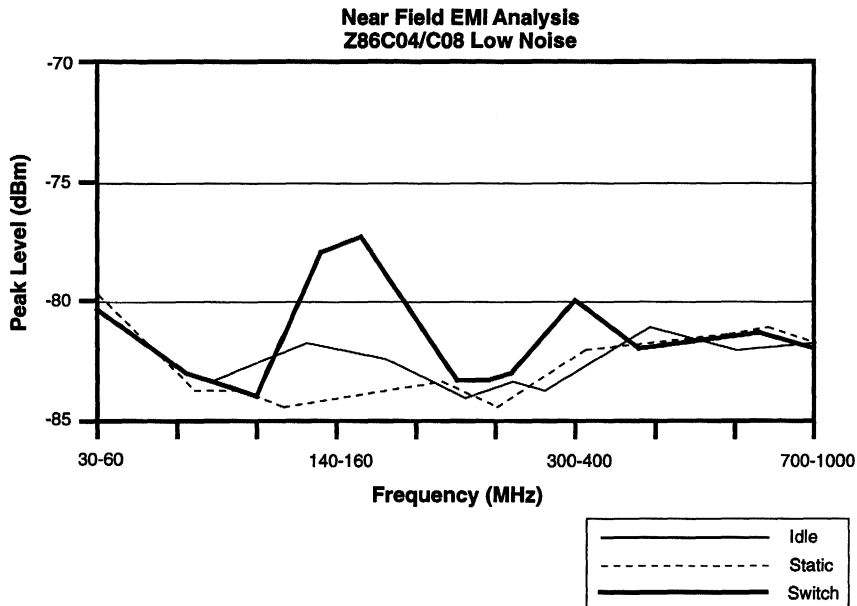

Figure 17. Low Noise Analysis
The measurements, shown in Figure 17, were made while operating the Z86C04/C08 in three states: (1) idle condition; (2) static output; (3) switched output.